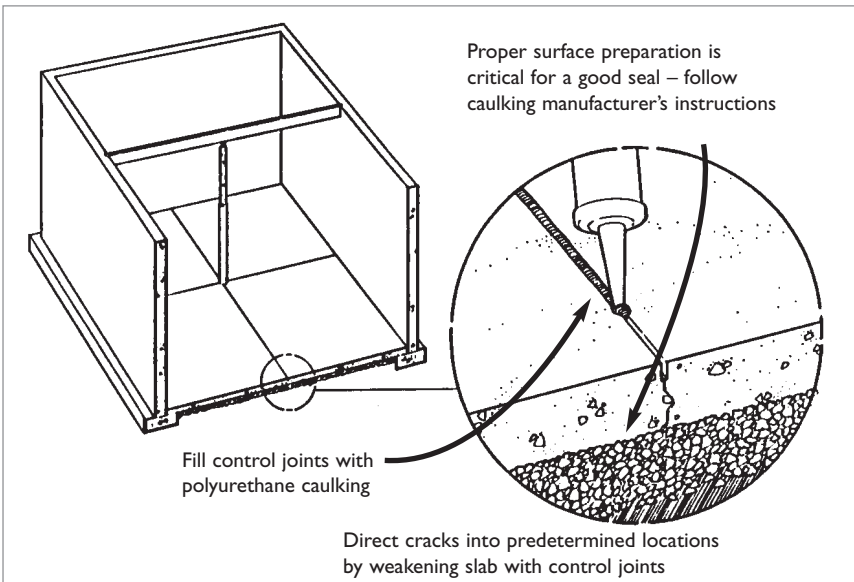

Figure 15: Control joints for new concrete floor slabs
- Use control joints in the concrete floor slab. Since some cracks in the basement slab may be unavoidable, your contractor can direct cracks into controlled locations where they can be sealed with polyurethane caulking (see figure 15). Control joints can be created by: